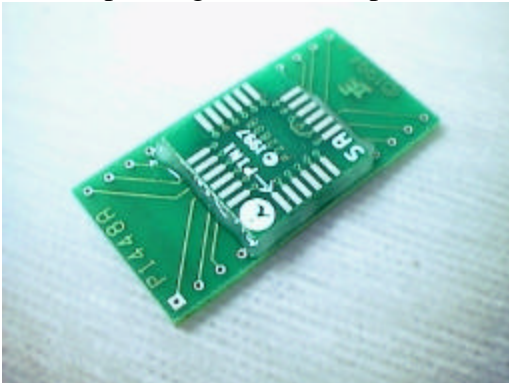

Figure 3: Applying Flux
- (2) Note the target board land pattern orientation and the adapter Pin 1 location. Place the adapter onto the flux and land pattern as shown in Figure 3. Handling the adapter with a vacuum pen, align on the land pattern of target PCB.
- (3) Apply a generous amount of flux along each side of the part as shown in Figure 3.
- (4) Surface tension between the adapter's solder columns and the target PCB's pads should self-align the part during the reflow process.
- (5) Reflow: